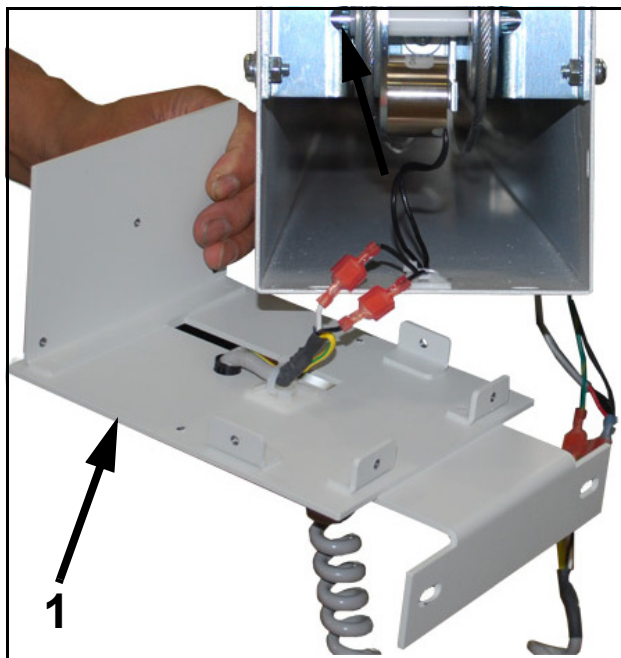

Figure 6-2. Top Cover
- 4 Remove the top cover (1 in Figure 6-2).